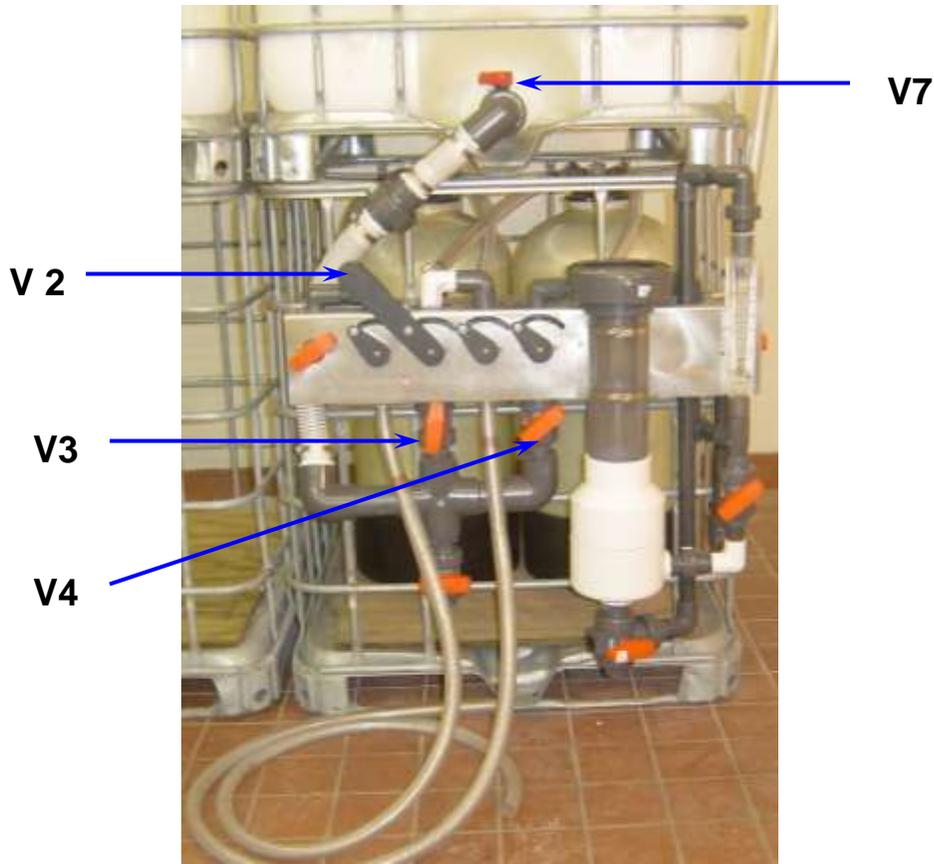

Figure 9: Valve Settings to Backwash Filters
1. Refer to Figure 9 and Table 3 for shutdown and backwash valve settings